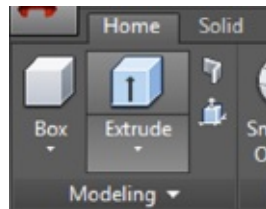

FIGURE 20.22 Selecting the Extrude tool from the Modeling panel
3. Click the Extrude tool in the Home tab's Modeling panel (see Figure 20.22).